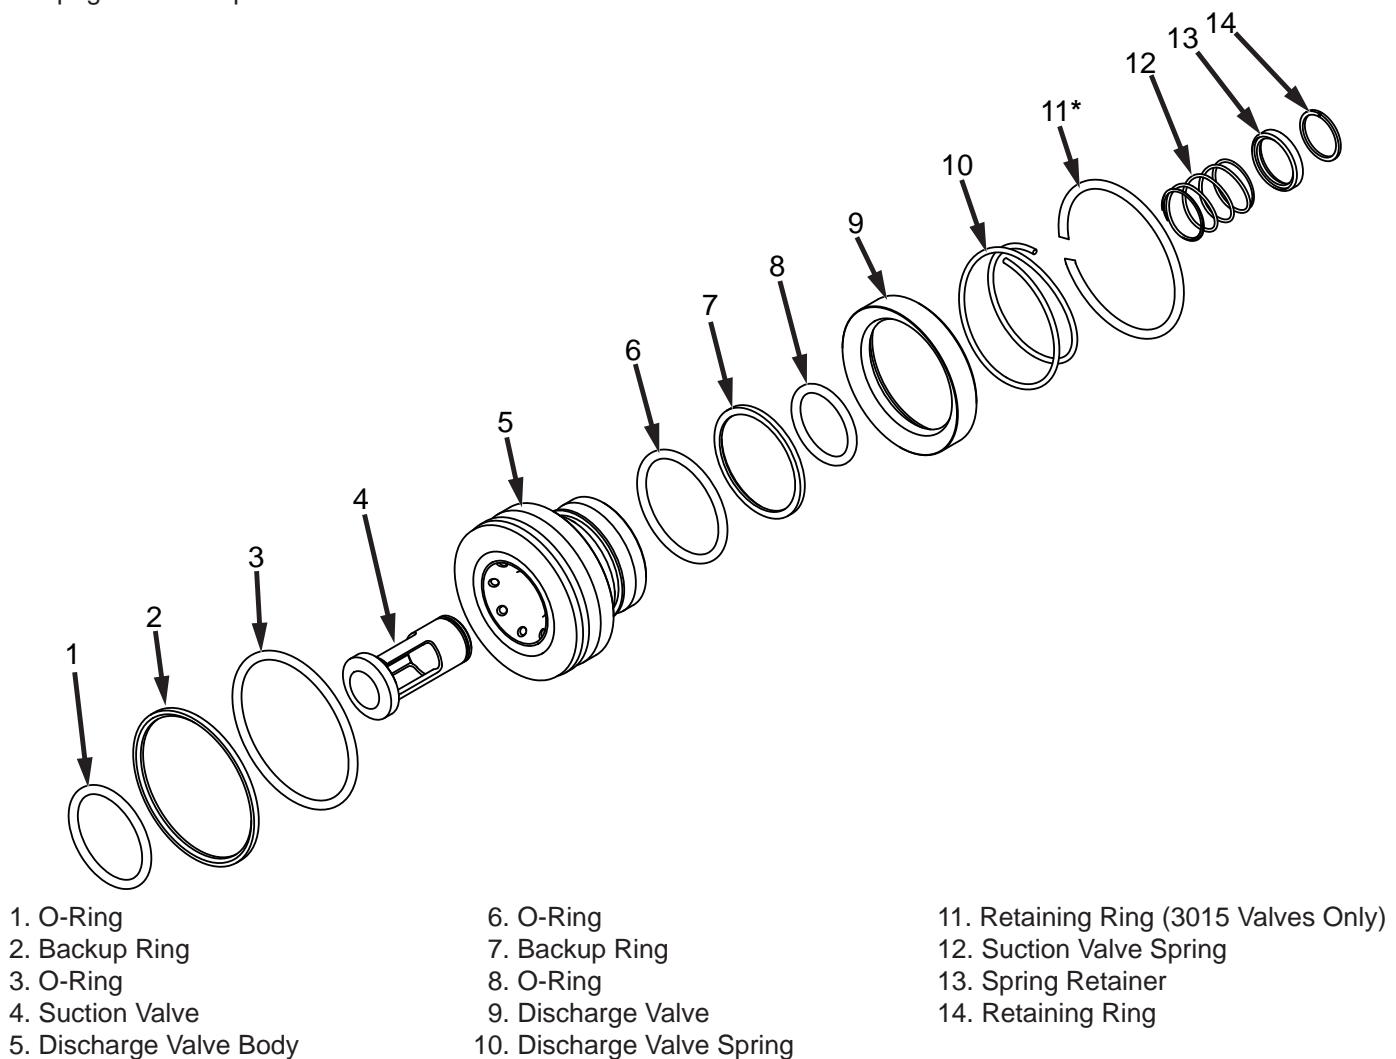

Fig. 94: 15/20K Uni-Valve Exploded View
Note: 3015 valves are equipped with a retaining ring to secure the discharge spring. Refer to Fig. 94.
6. Install the new O-rings and backup rings into their respective positions on the assembly. Refer to Fig. 94.